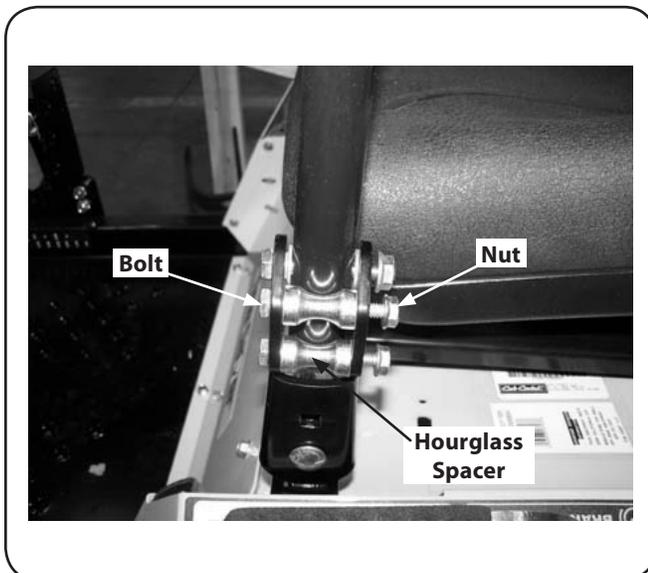

Figure 3-5
2. From the outside, insert the bolts through the hourglass spacers and the holes of the pivot bracket. Secure with the flange lock nuts. See Fig. 3-5.